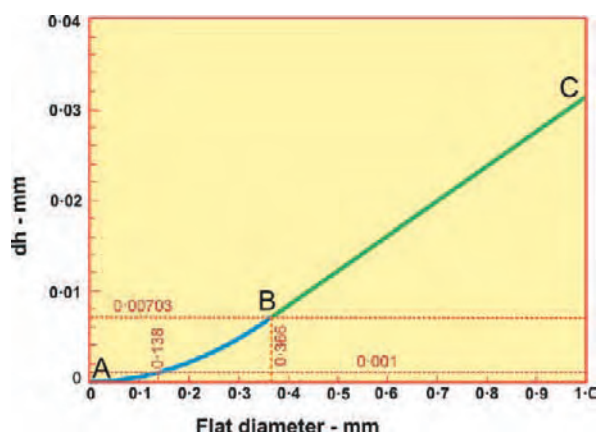

Fig.19. Effect of wear flat diameter on Check Block height reading.
Fig.19 (page 32) shows a plot for a standard Check Block ($h_0 = 0.6096\text{mm}$). Between **A** and **B** equation (8) operates and between **B** and **C** equation (9) operates.